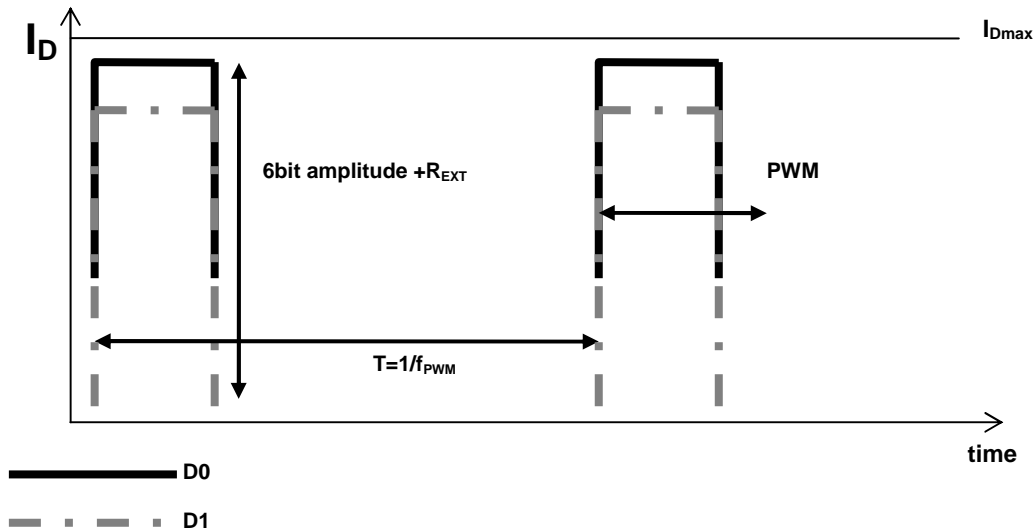

Figure 9. Illustration of Calibration and dimming of Output Current
**Figure 9. Illustration** of Calibration and dimming of Output Current describes the relation between calibration and dimming. The maximum current,  $I_{Dmax}$ , is set by the reference resistor,  $R_{EXT}$ . Setting the calibration bits will change the value of the switched current in the corresponding channel whilst controlling the PWM\_B/OEN\_B input will modulate the current in all active channels in the time domain.